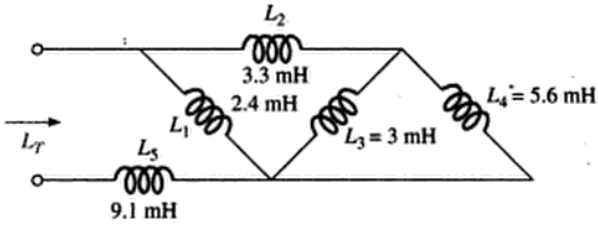

FIG. 11.100
35. Find the total inductance of the circuit of Fig. 11.100.